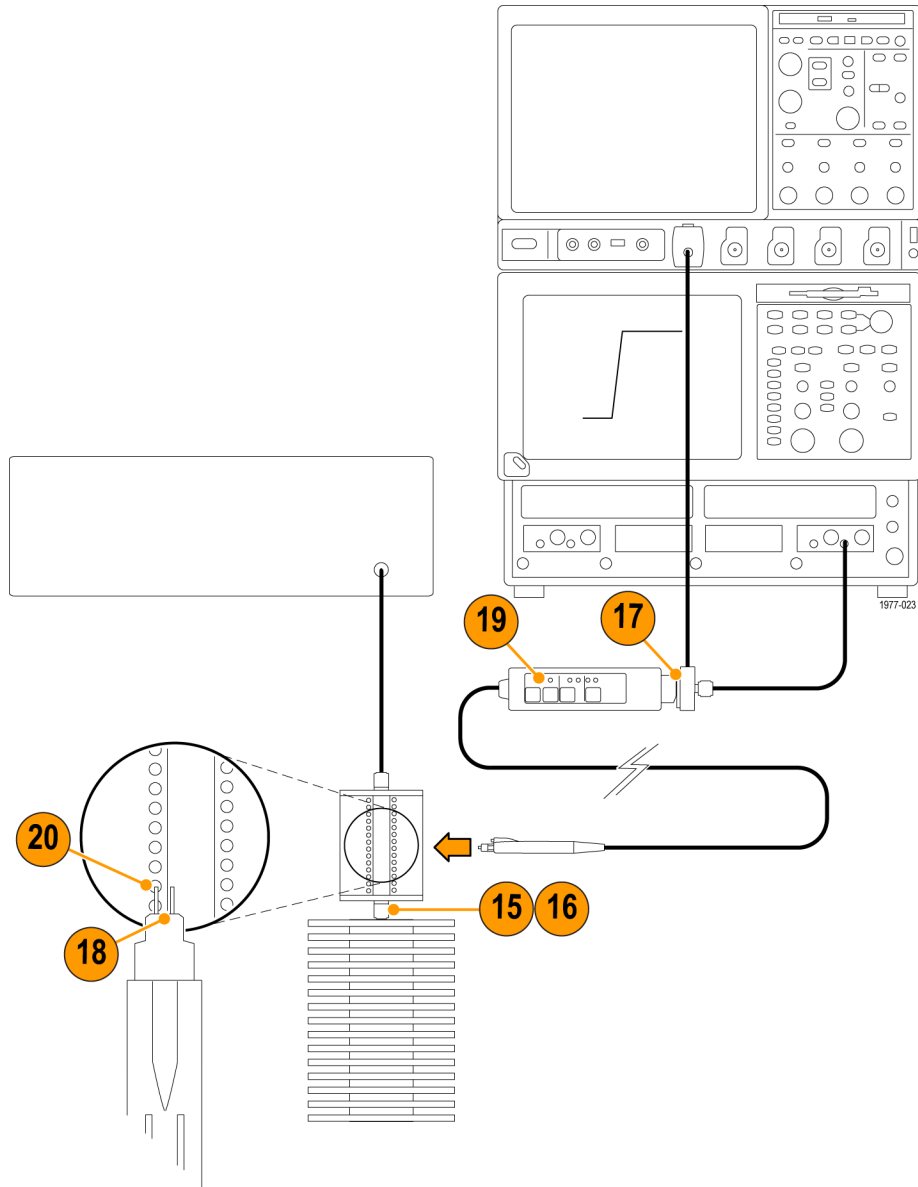

Figure 20: Probe rise time setup (42 V range)
20. Touch the probe tips to the DM pads on the probe calibration adapter and measure the rise time. (See Figure 20 on page 35.) Record the measured rise time of the system and probe as  $t_{s+p}$ . This measurement at the 42 V range is typically about 400 ps.